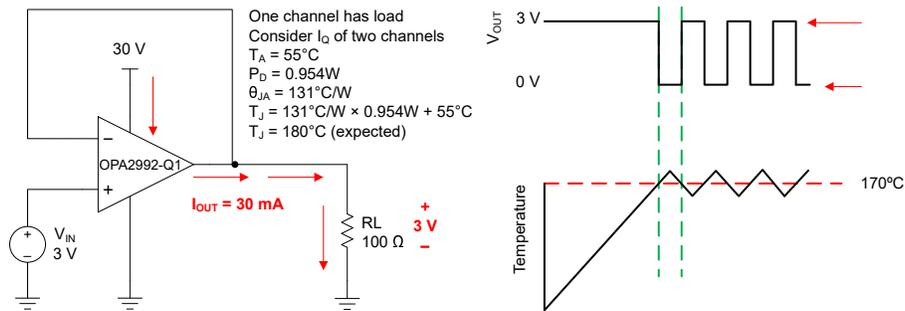

Figure 7-4. Thermal Protection
The internal power dissipation of any amplifier causes the internal (junction) temperature to rise. This phenomenon is called *self heating*. The absolute maximum junction temperature of the OPAx992-Q1 is 150°C. Exceeding this temperature causes damage to the device. The OPAx992-Q1 has a thermal protection feature that reduces damage from self heating. The protection works by monitoring the temperature of the device and turning off the op amp output drive for temperatures above 170°C. Figure 7-4 shows an application example for the OPA2992-Q1 that has significant self heating because of the power dissipation (0.954 W). In this example, both channels have a quiescent power dissipation while one of the channels has a significant load. Thermal calculations indicate that for an ambient temperature of 55°C, the device junction temperature reaches 180°C. The actual device, however, turns off the output drive to recover towards a safe junction temperature. Figure 7-4 shows how the circuit behaves during thermal protection. During normal operation, the device acts as a buffer so the output is 3 V. When self heating causes the device junction temperature to increase above the internal limit, the thermal protection forces the output to a high-impedance state and the output is pulled to ground through resistor  $R_L$ . If the condition that caused excessive power dissipation is not removed, then the amplifier oscillates between a shutdown and enabled state until the output fault is corrected. Please note that thermal performance can vary greatly depending on the package selected and the PCB layout design. This example uses the thermal performance of the SOIC (8) package.